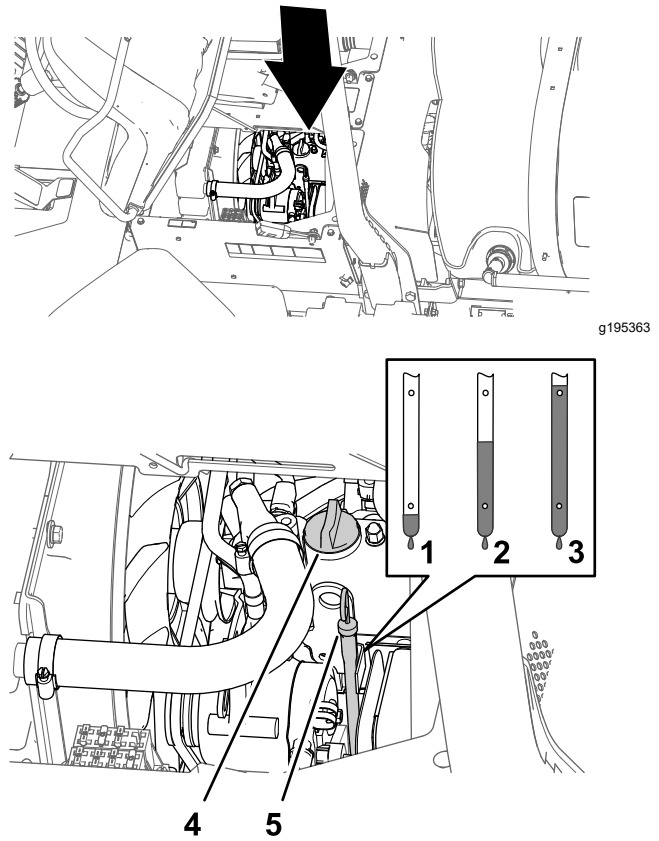

Figure 78
- Remove the dipstick, located under the passenger seat, and wipe it with a clean rag (Figure 78).
- If the oil level is low, remove the filler cap from the valve cover (Figure 78) and pour oil into the filler neck until the oil level is up to the Full mark on the dipstick.
- Install the oil-filler cap (Figure 78).
- Install the dipstick firmly in place (Figure 78).